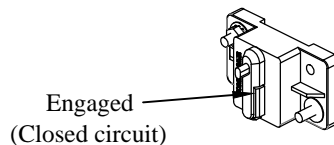

Figure 10: Engage circuit breaker.
1. **Connect** the 4ga power cable to the positive side of the battery (Customer Connection Point on the driver seat pedestal on some Ford Transit vans) or manually **Engage** the circuit breaker (Figure 10).
11. **Connect** the 4ga power cable to the positive side of the battery (Customer Connection Point on the driver seat pedestal on some Ford Transit vans) or manually **Engage** the circuit breaker (Figure 10).